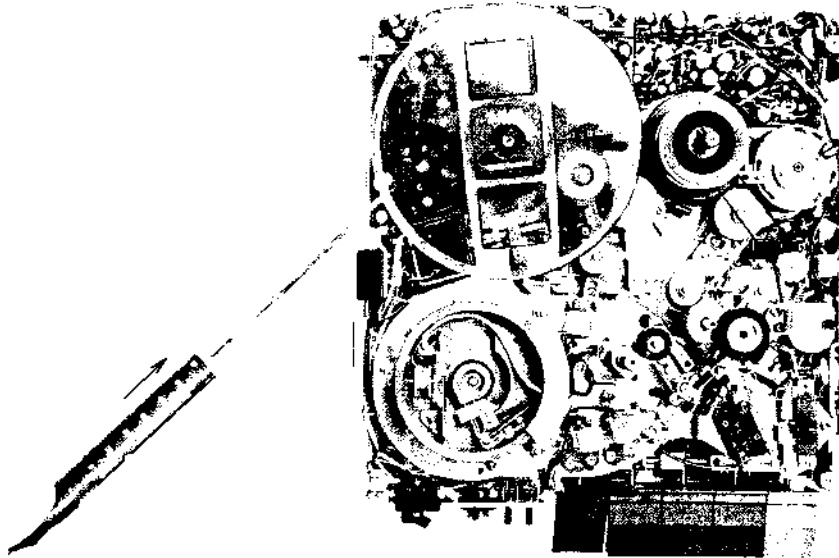

Fig. 1-12
- b) As shown in Fig. 1-12, use the same reel as in Item (a) above and set on supply reel table. Also, using the same method as in Item (a) above, measure torque at rewind mode. It is satisfactory if rewind torque is within 200 to 300g.